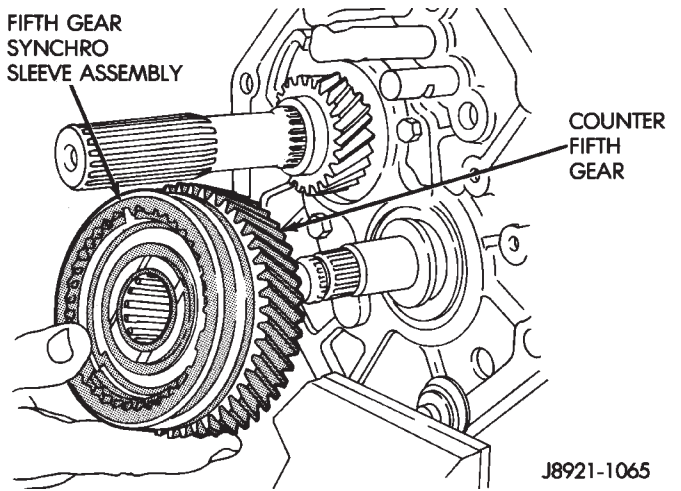

Fig. 101 Installing Counter Fifth Gear And Sleeve
- (5) Install counter fifth gear and synchro assembly on cluster gear journal (Fig. 101).